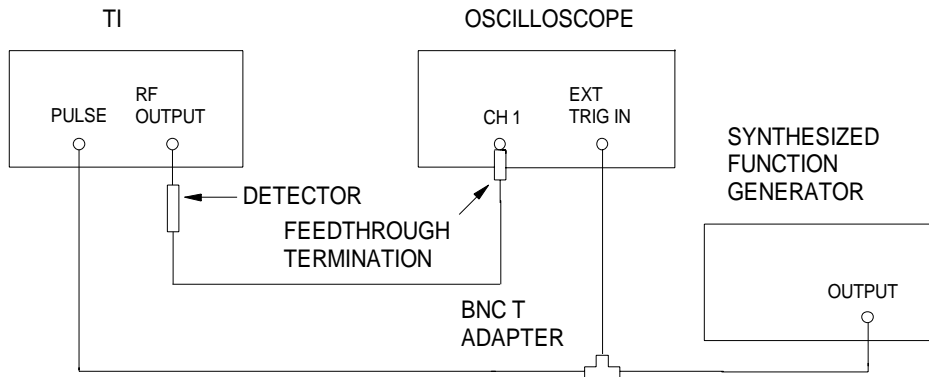

Figure 7.
4.9.2.2 Connect equipment as shown in Figure 7.